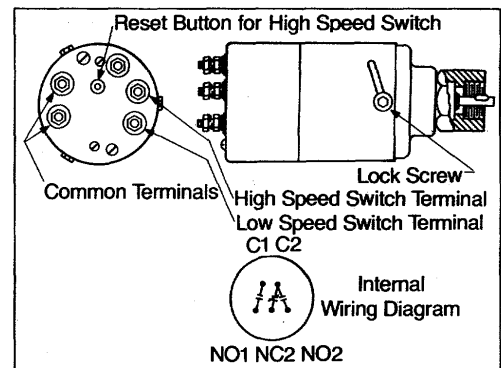

Fig. 1-22, (CGS27). Double speed switch
- a. Remove the round head dust cover screw marked 2 from the top of the switch. Fig. 1-22.